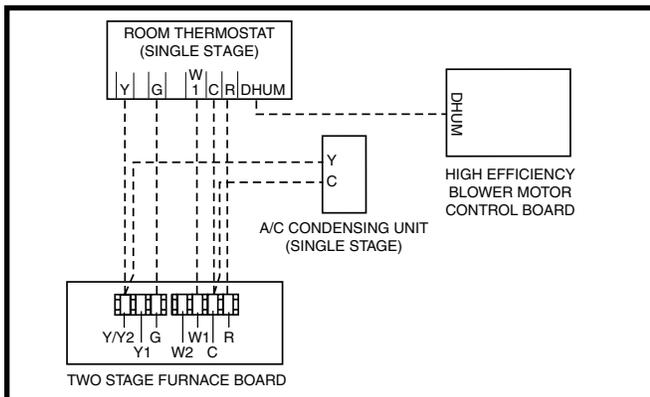
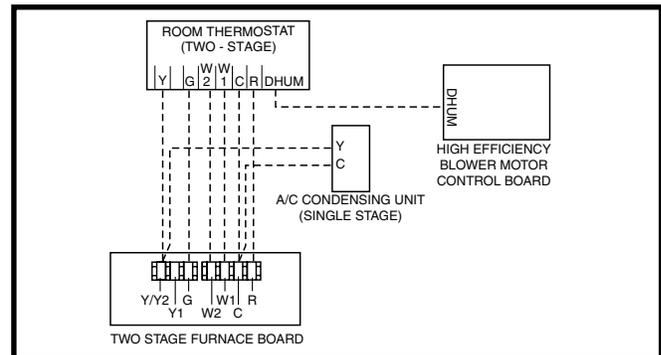
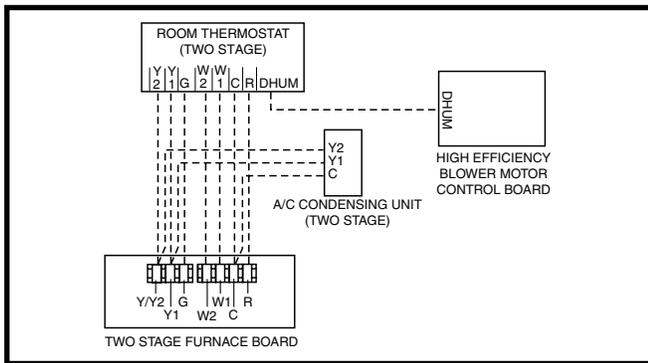

Figure 20. Wiring Configuration 1
Figure 21. Wiring Configuration 2
Figure 22. Wiring Configuration 3
- Connect the thermostat’s **W** output to the furnace control boards **W1** terminal. This allows the furnace to always run in low output mode. See Figure 20.
This option uses the full two stage heating capability of the furnace with a single stage outdoor unit. See Figure 21.
This option uses the full two stage heating capability of the furnace with a two stage outdoor unit. See Figure 22.
The Autostaging feature makes it possible to use a single stage thermostat and still receive some of the benefits of 2-stage furnace operation. If Autostage is enabled, the furnace will drop to **LOW** fire after initially starting in **HIGH** fire. After a period of 10 minutes, the furnace will then stage up to **HIGH** fire, until the heating load is met. See Figure 20 and the Low Voltage Connection section on page 23.
- ✓ Verify that all needed thermostat wires are securely connected to the correct leads on the terminal strip of the circuit board. See Figure 20 (page 24), Figure 21 (page 24), & Figure 22 (page 25).
The operating sequences for the heating, cooling, and fan modes are described below. Refer to the field and furnace wiring diagrams: Figure 19 (page 24), Figure 20 (page 24), Figure 21 (page 24), Figure 22 (page 25) & Figure 30 (page 39), Figure 31 (page 40), Figure 32 (page 41), & Figure 33 (page 42).